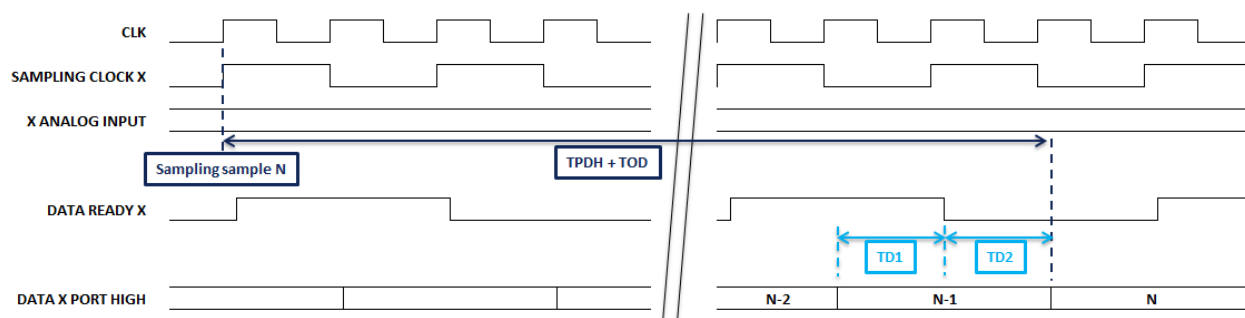

Figure 3: Timing diagram in DEMUX 1:1
3. Refer to timing diagrams in Figure 3
For both figure 3 and 4, X represents either channel A or B. If channel A and B are interleaved, the internal sampling clocks of channel A and B are in opposition and their output data and data ready are delayed by 1 external CLK cycle.